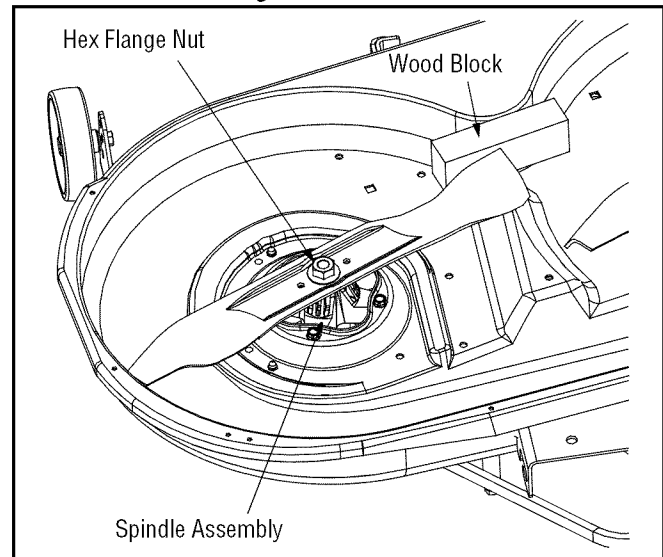

Figure 17
- Place a block of wood between the center deck housing baffle and the cutting blade to act as a stabilizer. See Figure 17.
- Remove the hex flange nut that secures the blade to the spindle assembly. See Figure 17.